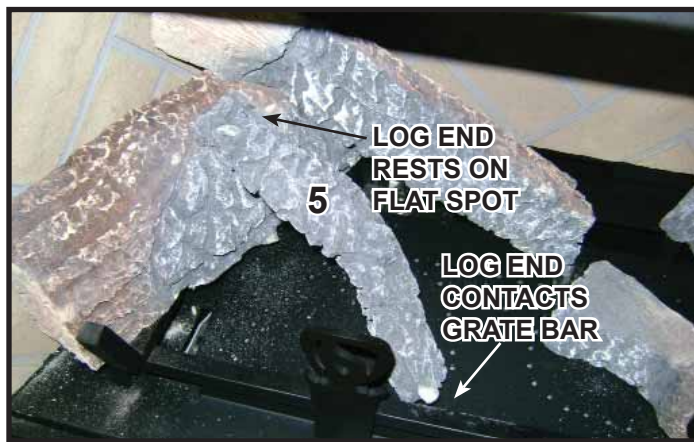

Figure 13. Log #5
**Log #5 (SRV2227-706):** Place the left end of the log on the flat spot of log as shown in Figure 6. The right end of log should rest on the burner and touches the grate bar as shown in Figure 13.